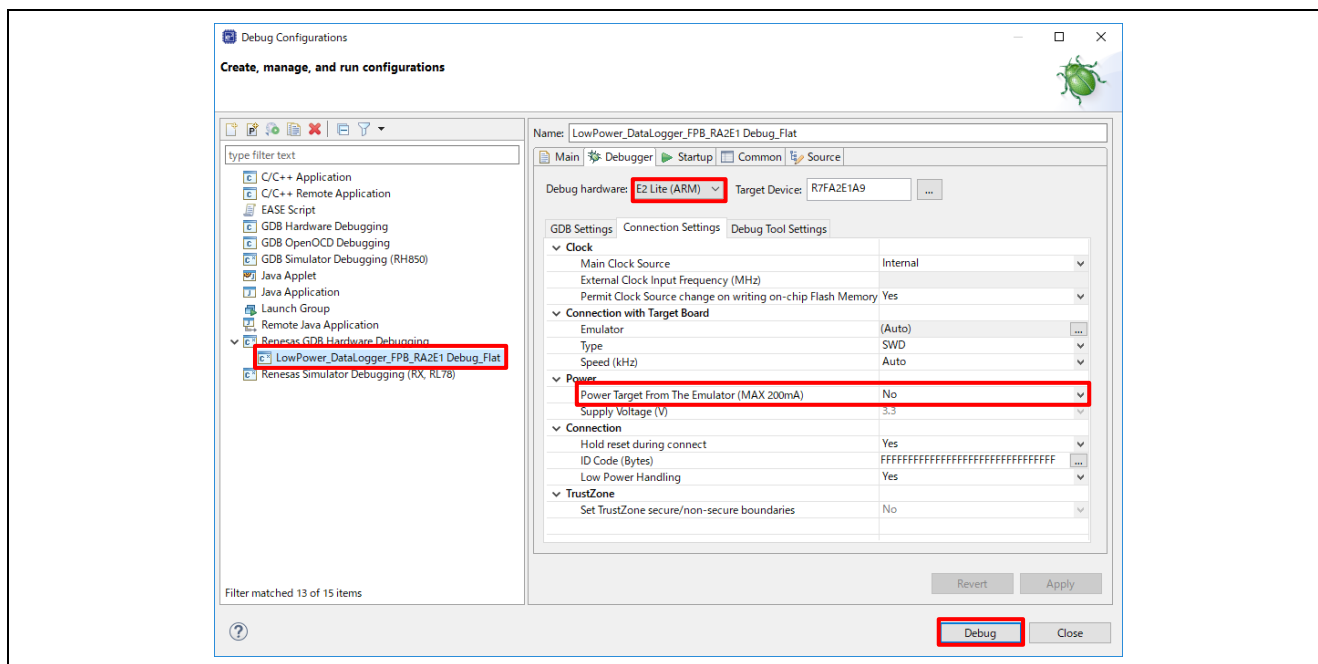

Figure 53. Debug Configuration
4. Change settings as follows and as shown in Figure 53.